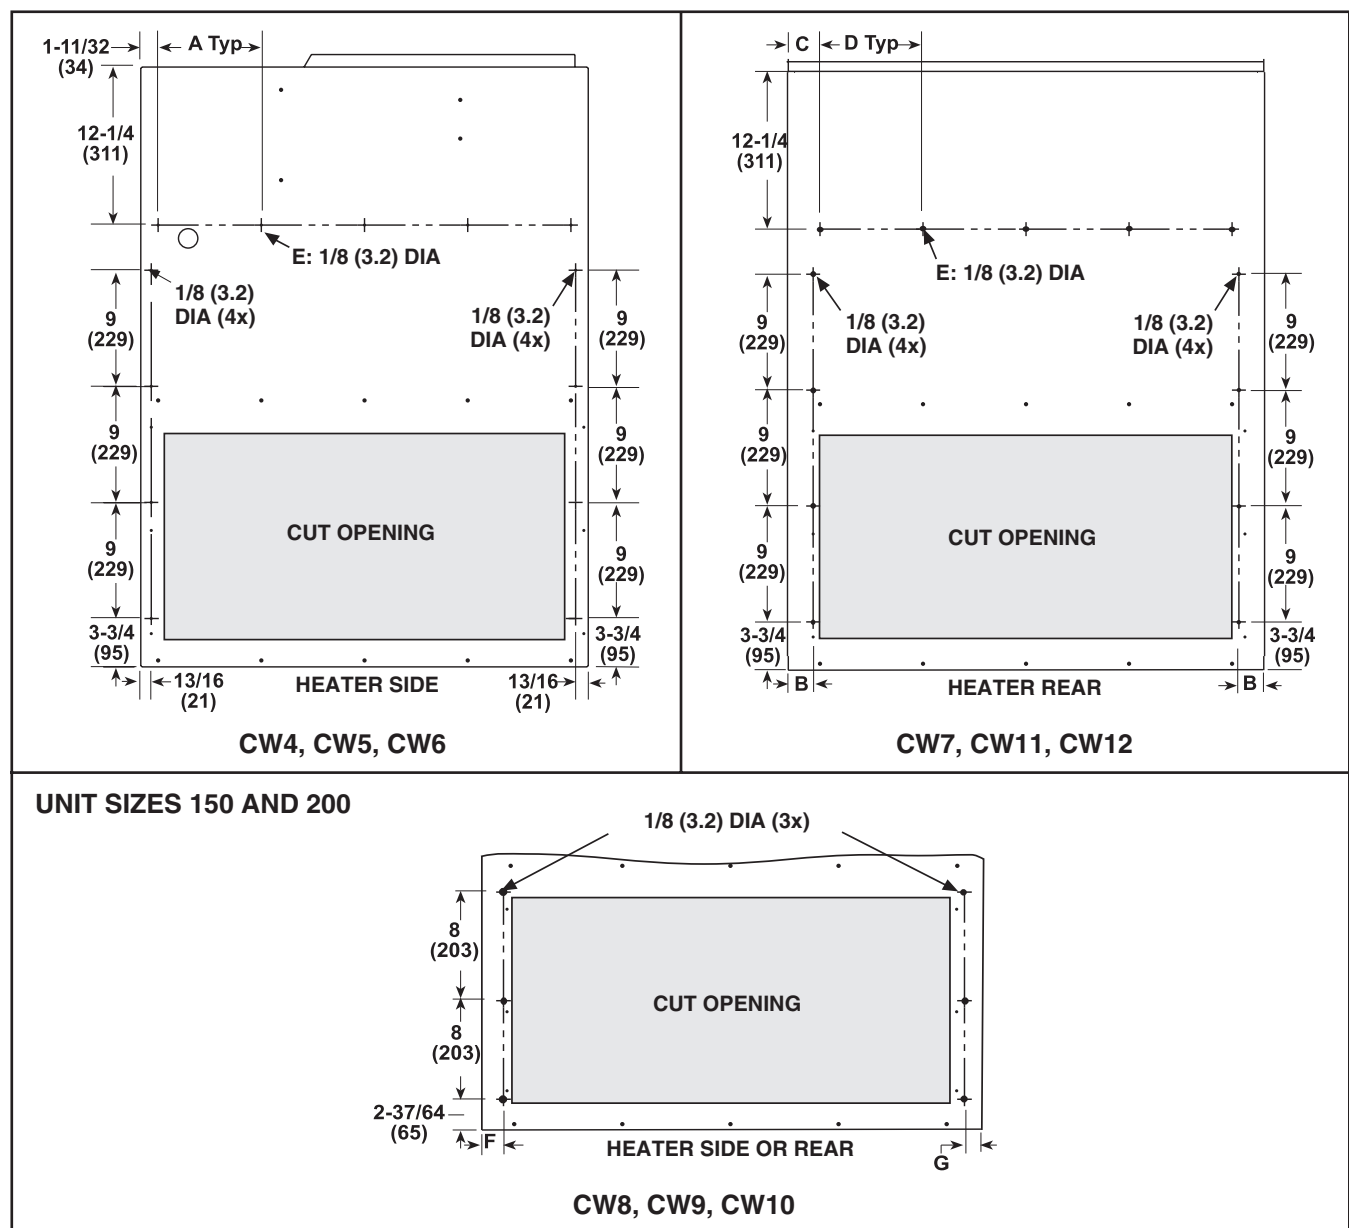

Figure 5. Mounting Holes and Dimensions (Refer to Table 9)
4. For option CW4, CW5, CW6, CW7, CW8, CW9, CW10, CW11, or CW12, mark and drill four 1/8-inch holes above inlet opening as shown in Figure 5.